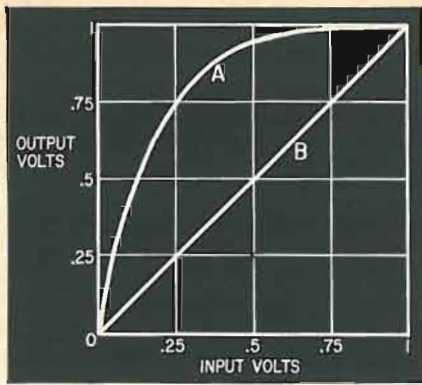
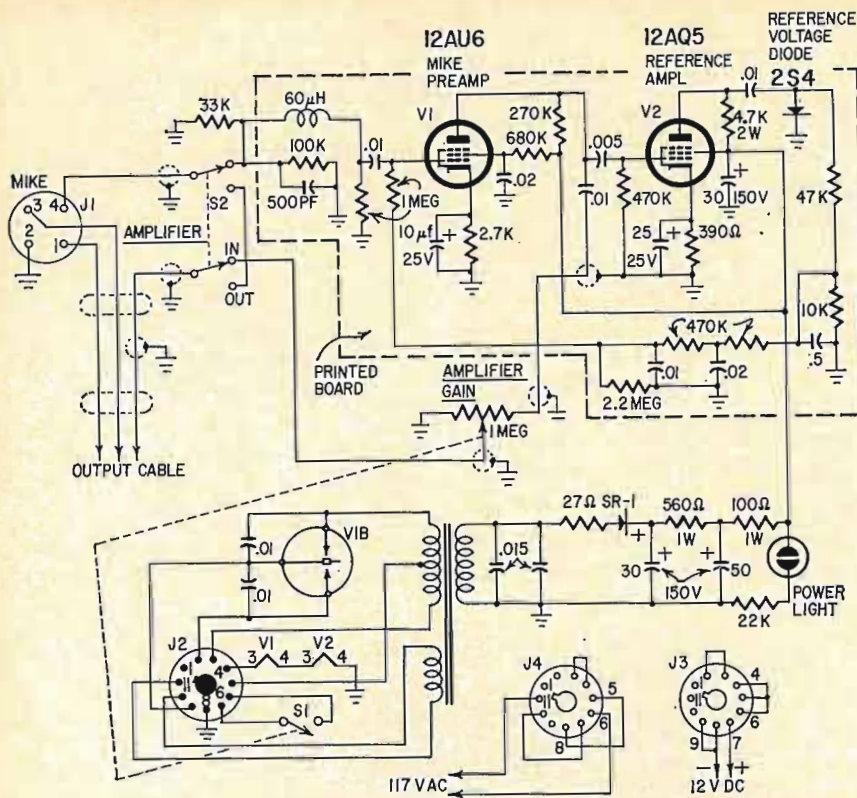

Fig. 2—Gain of compressor amplifier (curve A) levels off at high amplitudes; Ordinary amplifier (B) is more or less linear up to overload point.
Fig. 4—A compressor type accessory, Sampson power modulator rectifies amplified speech signal, biases preamp accordingly to limit gain on loud signals.
plified much more than in a constant-gain amplifier, while the louder sounds get little or no amplification. Fig. 2 compares the output of a speech or volume compressor (curve A) with that of a conventional constant-gain amplifier (curve B).
In a speech compressor, we rectify and filter a portion of the modulator's audio output and use it as a variable negative bias on the compressor stage. Fig. 1-d shows our typical audio wave-of modulation for various speech levels form (Fig. 1-a) after passing through a speech compressor with the gain curve (A) in Fig. 2.
The signal from the microphone is amplified by the 12AU6 (Fig. 4) and fed simultaneously to the grid of the 12AQ5 and to the transmitter's speech amplifier via the AMPLIFIER GAIN control. The 12AQ5's output is rectified and filtered to produce a variable negative grid bias for the 12AU6. The filter network is arranged so the 12AU6 operates with high gain for weak sounds and low gain for loud sounds. The gain curve of the 12AU6 looks like curve A in Fig. 2.
This chassis uses a rather unusual retrace eliminator circuit (Fig. 2). The vertical and horizontal blanking pulses are both fed from the same